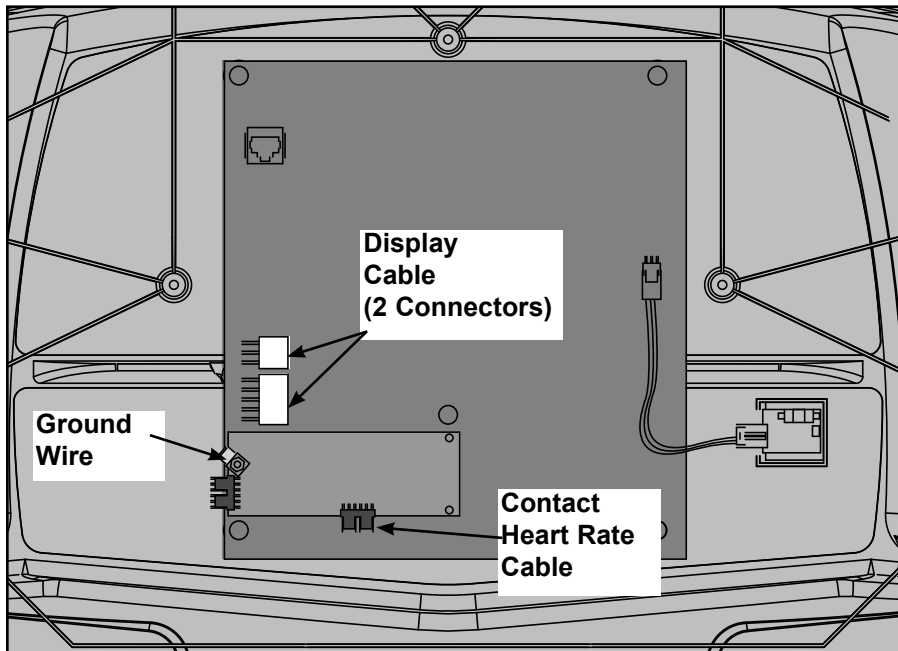

Figure 8
- C. Connect these cables into the display board: the display cable (2 connectors), the contact heart rate cable and the ground wire. See Figure 8.
- D. Check to see that all of the cables are connected firmly in their proper place. See Figure 8.